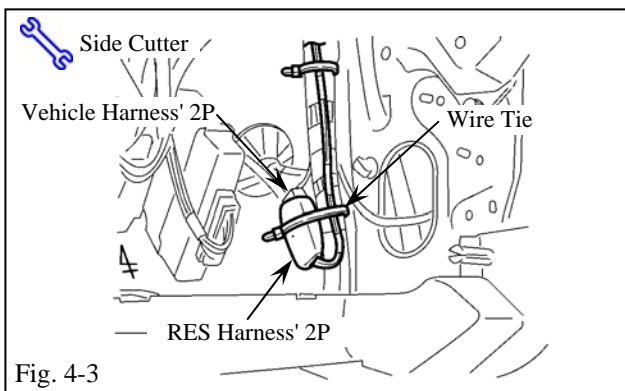

Fig. 4-3
- (d) Plug in the V5 harness' white 2P connector to the vehicle harness' white 2P connector. Secure the V5 harness to the vehicle harness with one wire tie. (Fig. 4-3)